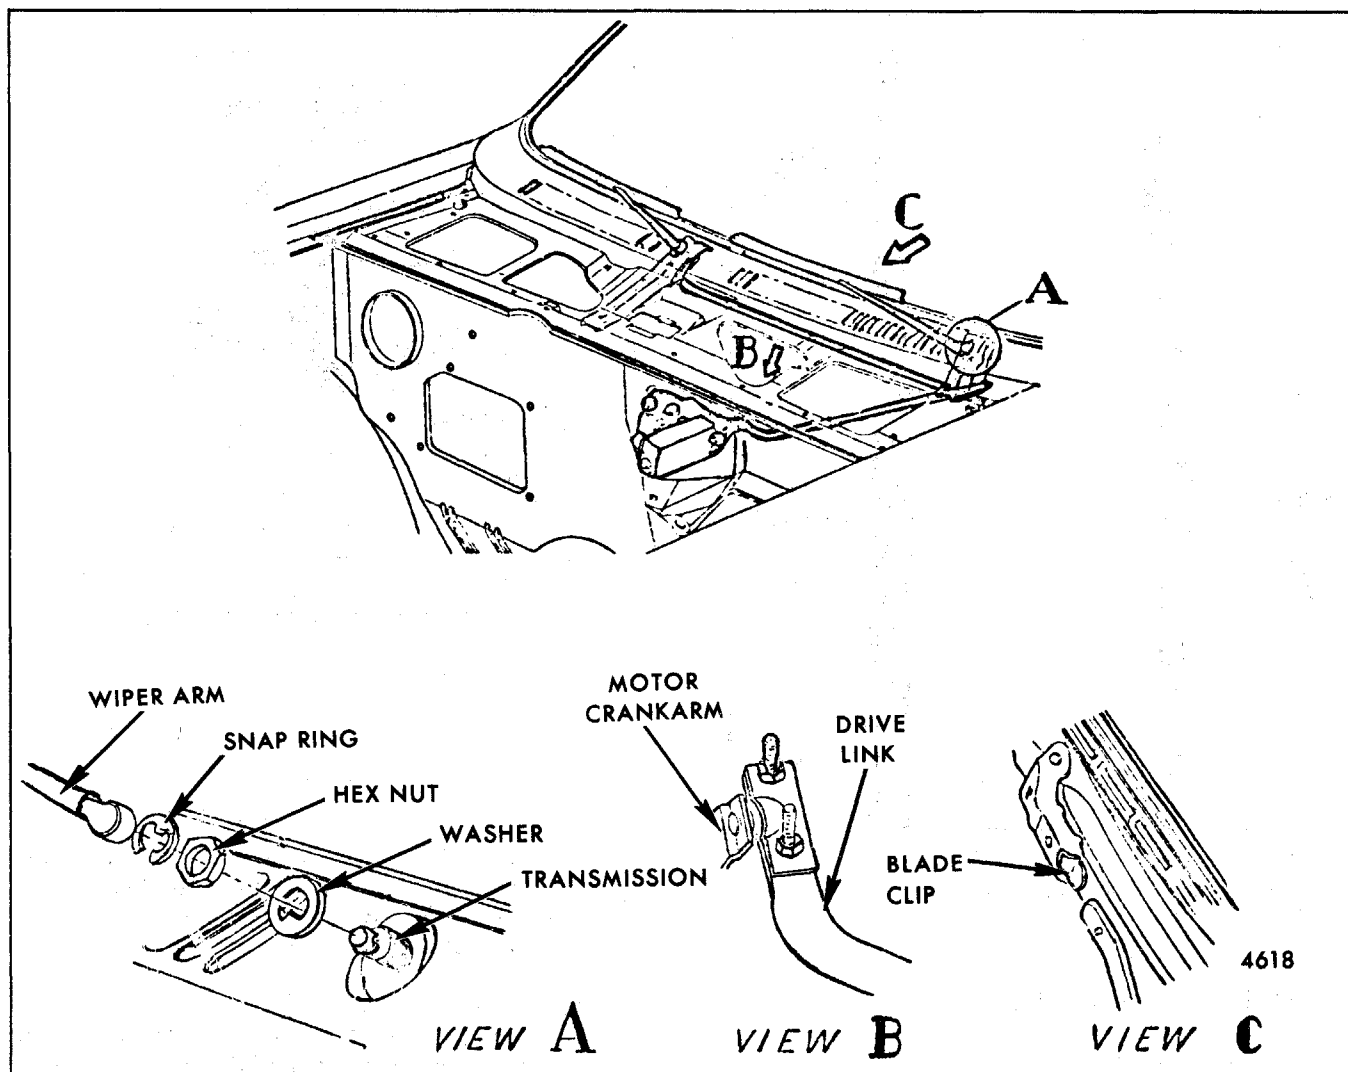

Fig. 2-9-Wiper Installation - "H" Styles
On "H" styles, to remove the wiper blade from the wiper arm depress the spring type blade clip (Fig. 2-9) away from the underside of the arm and slide arm out of blade clip.
4. Loosen, do not remove, transmission drive link to motor crank arm attaching nuts (Fig. 2-9) and disconnect drive link from motor crank arm.